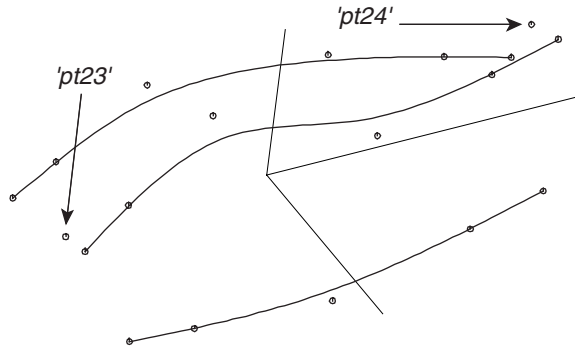

Fig. 15
- 4 **Drag the new point ('pt23')** about 1/4 the distance toward 'xpt0' (at the end of the uppermost spline; see Fig. 15 below).
- 6 Drag the new point ('pt24') toward 'xpt5', about the same distance and in the same direction that you dragged 'pt23' (Fig. 15).